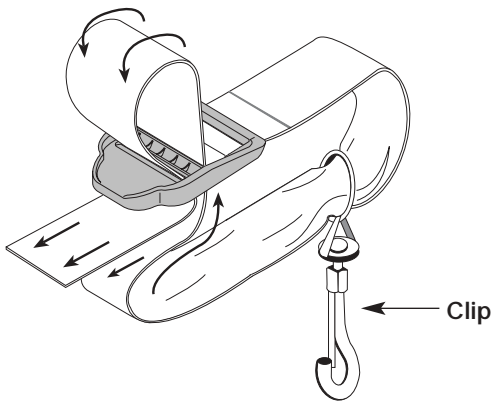

Fig. 7
2. Pull the strap over the cross bar and down through the slot in the buckle (Fig. 7).